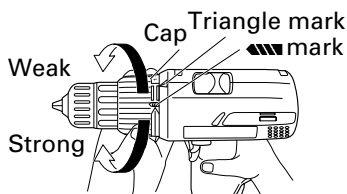

Fig. 9
## 5. Confirm the cap position (see Fig. 9)
### (2) Tightening torque indication (See Fig. 9)
### (3) Adjusting the tightening torque (See Fig. 9)